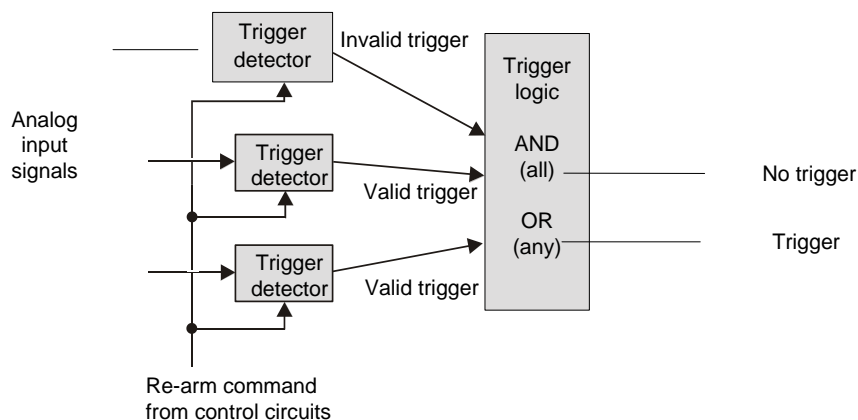

Figure 11. Multichannel trigger detection
2. After all of the channels have been examined, the FPGA logically combines the individual triggers to generate the actual trigger. You can program the FPGA to generate a trigger if any individual trigger is valid (OR) or if all triggers are valid (AND) (see Figure 11)